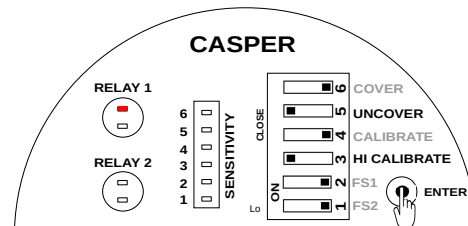

Figure 29: Setting Uncover Delay for Relay 2
- Press and hold ENTER key as shown in Figure 29. The STATUS LED for RELAY 1 starts blinking. Blink the LED according to value of uncover delay.